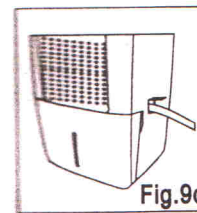

Fig.9c
- Place the bucket back in the unit and make sure that it is located correctly. (Fig.9c)